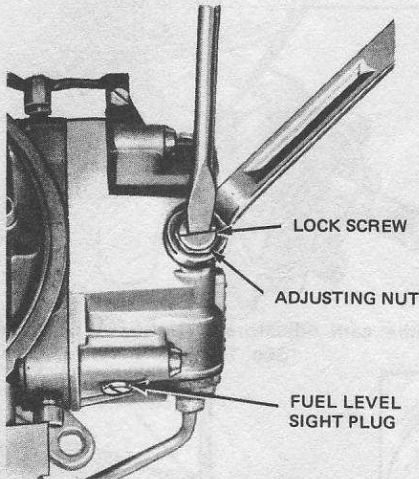

Fig. 3.41 Fuel level float adjustment – wet (Holley 4150C carburetor) (Sec. 17)
- With the engine stopped, loosen the lock screw on top of the fuel bowl just enough to allow turning of the adjusting nut underneath (Fig. 3.41). **CAUTION:** Do not attempt to adjust the fuel level with the sight plug removed and the engine running as the pressure in the line will spray fuel out and present a fire hazard.